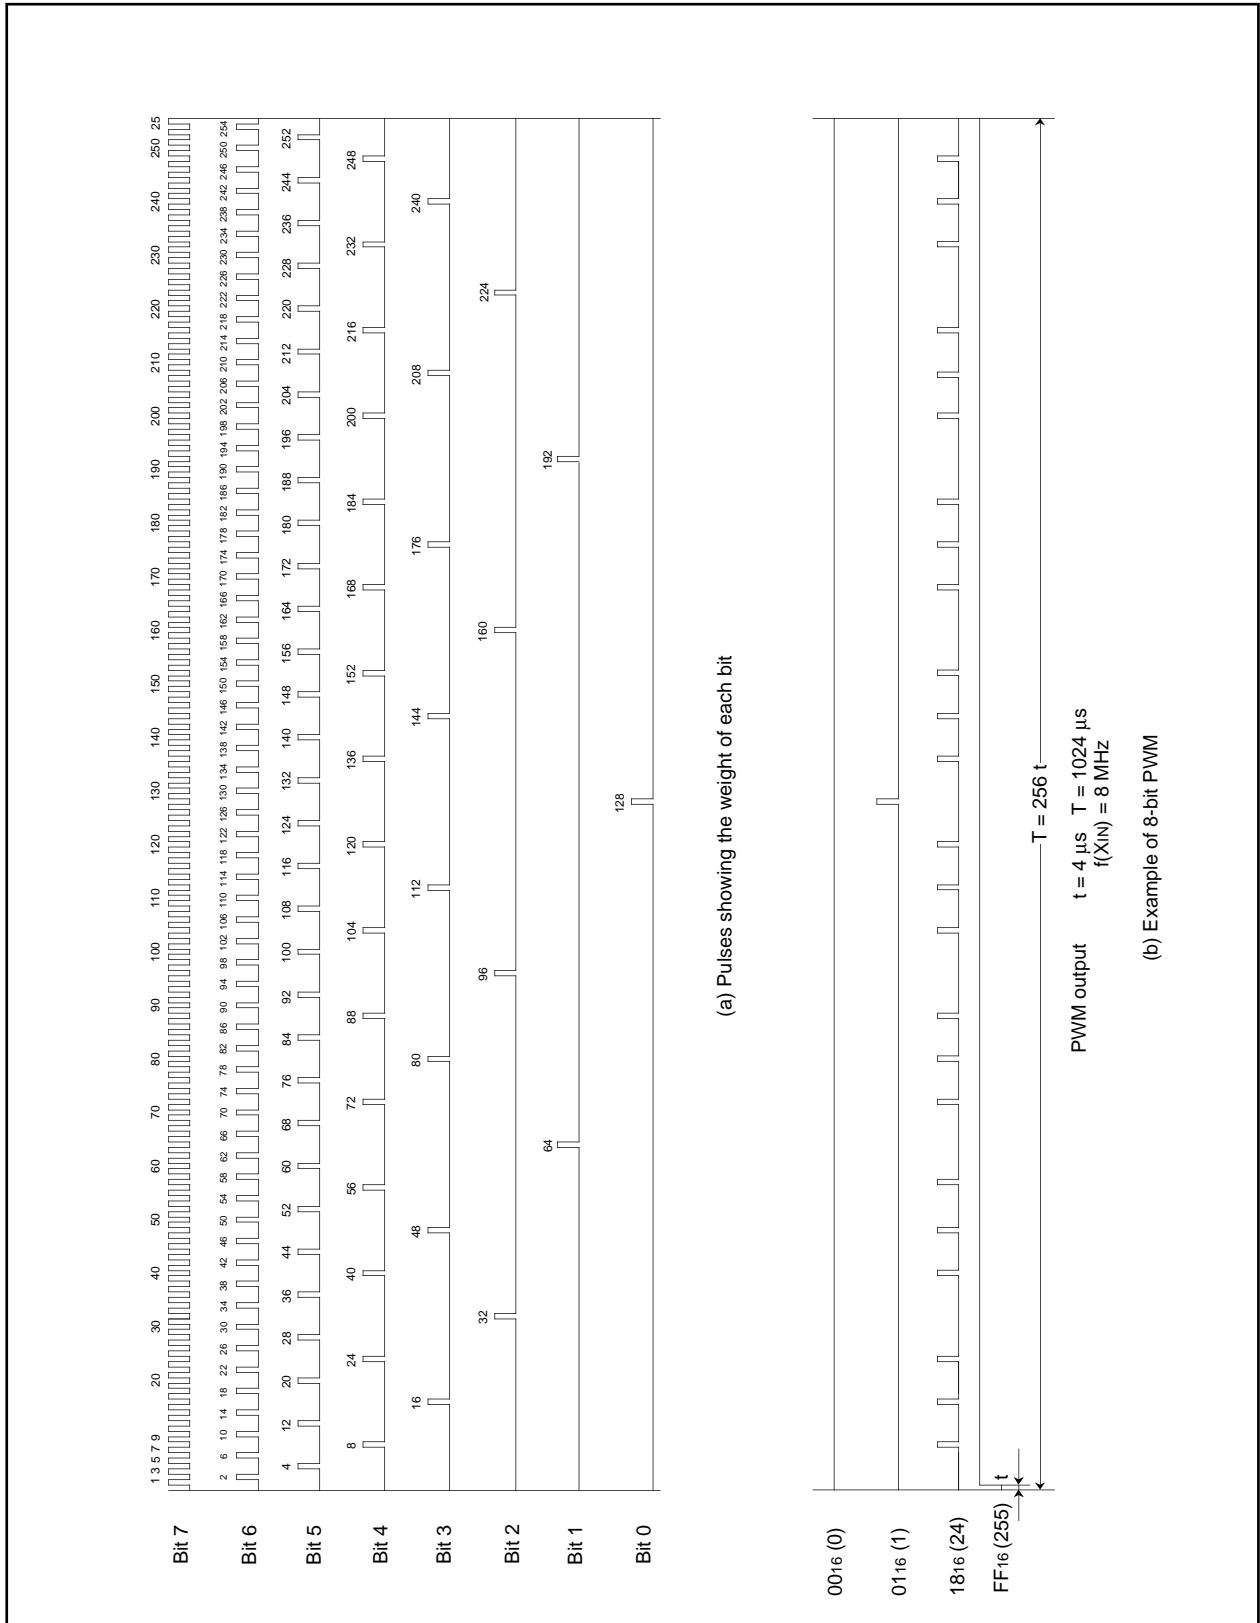
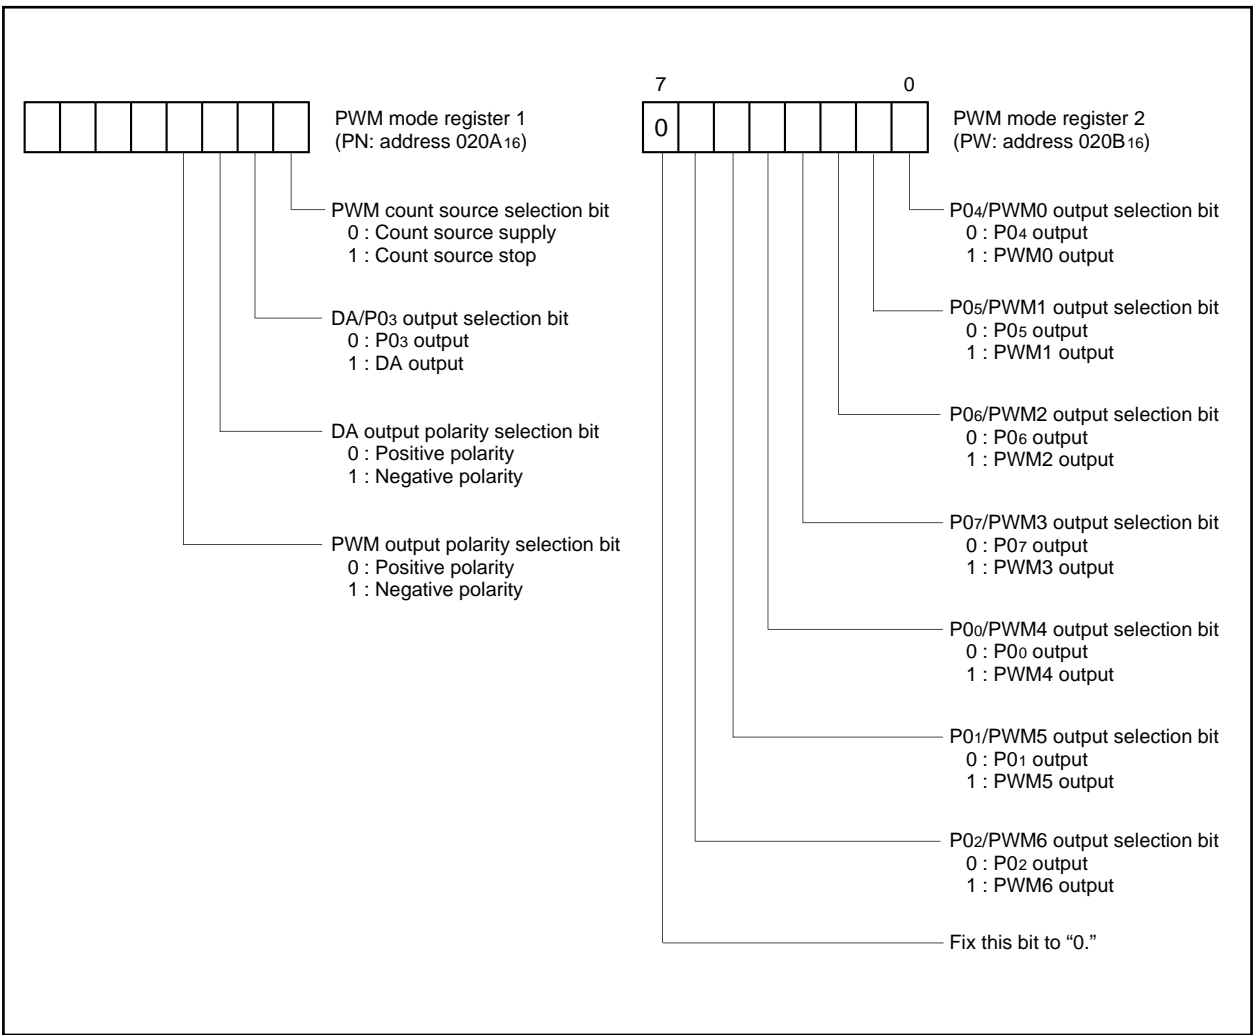

Fig. 18. 8-bit PWM Timing
Fig. 20. PWM-related Registers
Figure 18 shows the 8-bit PWM timing. One cycle (T) is composed of $256 (2^8)$ segments. The 8 kinds of pulses, relative to the weight of each bit (bits 0 to 7), are output inside the circuit during 1 cycle. Refer to Figure 20 (a). The 8-bit PWM outputs waveform which is the logical sum (OR) of pulses corresponding to the contents of bits 0 to 7 of the 8-bit PWM register. Several examples are shown in Figure 20 (b). 256 kinds of output (HIGH area: $0/256$ to $255/256$) are selected by changing the contents of the PWM register. A length of entirely HIGH cannot be output, i.e. $256/256$.
(4) Operating of 14-bit PWM